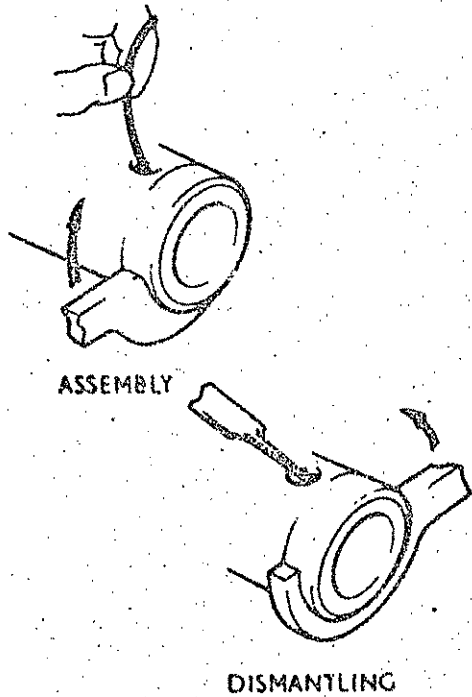

Fig.12
- (b) Grip ram cylinder in vice and fit 'C' spanner. Head Bush as shown. Lever up straight end of Locking wire and rotate Head Bush one turn to force wire out (Fig. 12).